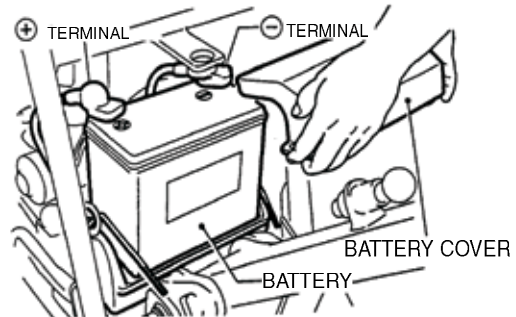

Figure 39. Removing Battery Cover
2. When removing battery cables, disconnect the ground side (normally negative) first (Figure 39).